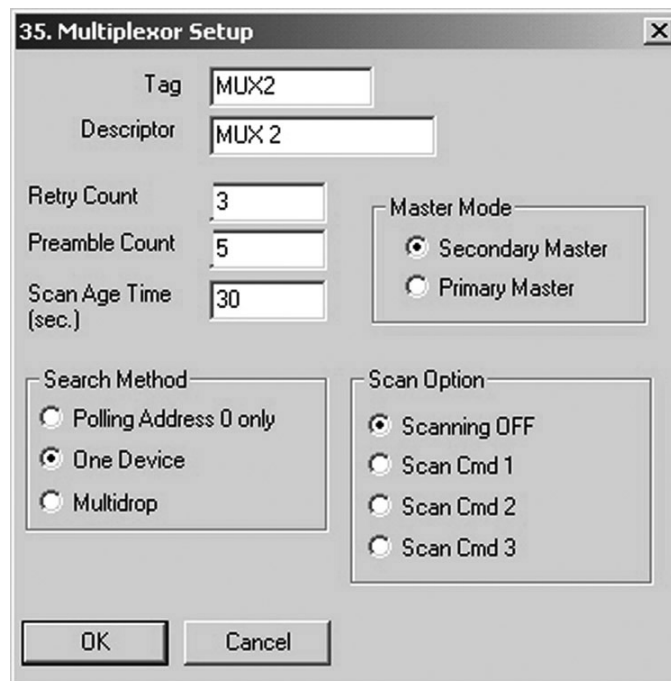

Figure 31 Options and Mux Setup
3. Enter a number between 1 and 31 for the desired node and select **OK** and Figure 31. The node address must match the DIP switch setting on the Mux hardware.
The *Multiplexor Setup* dialog appears (Figure 31).